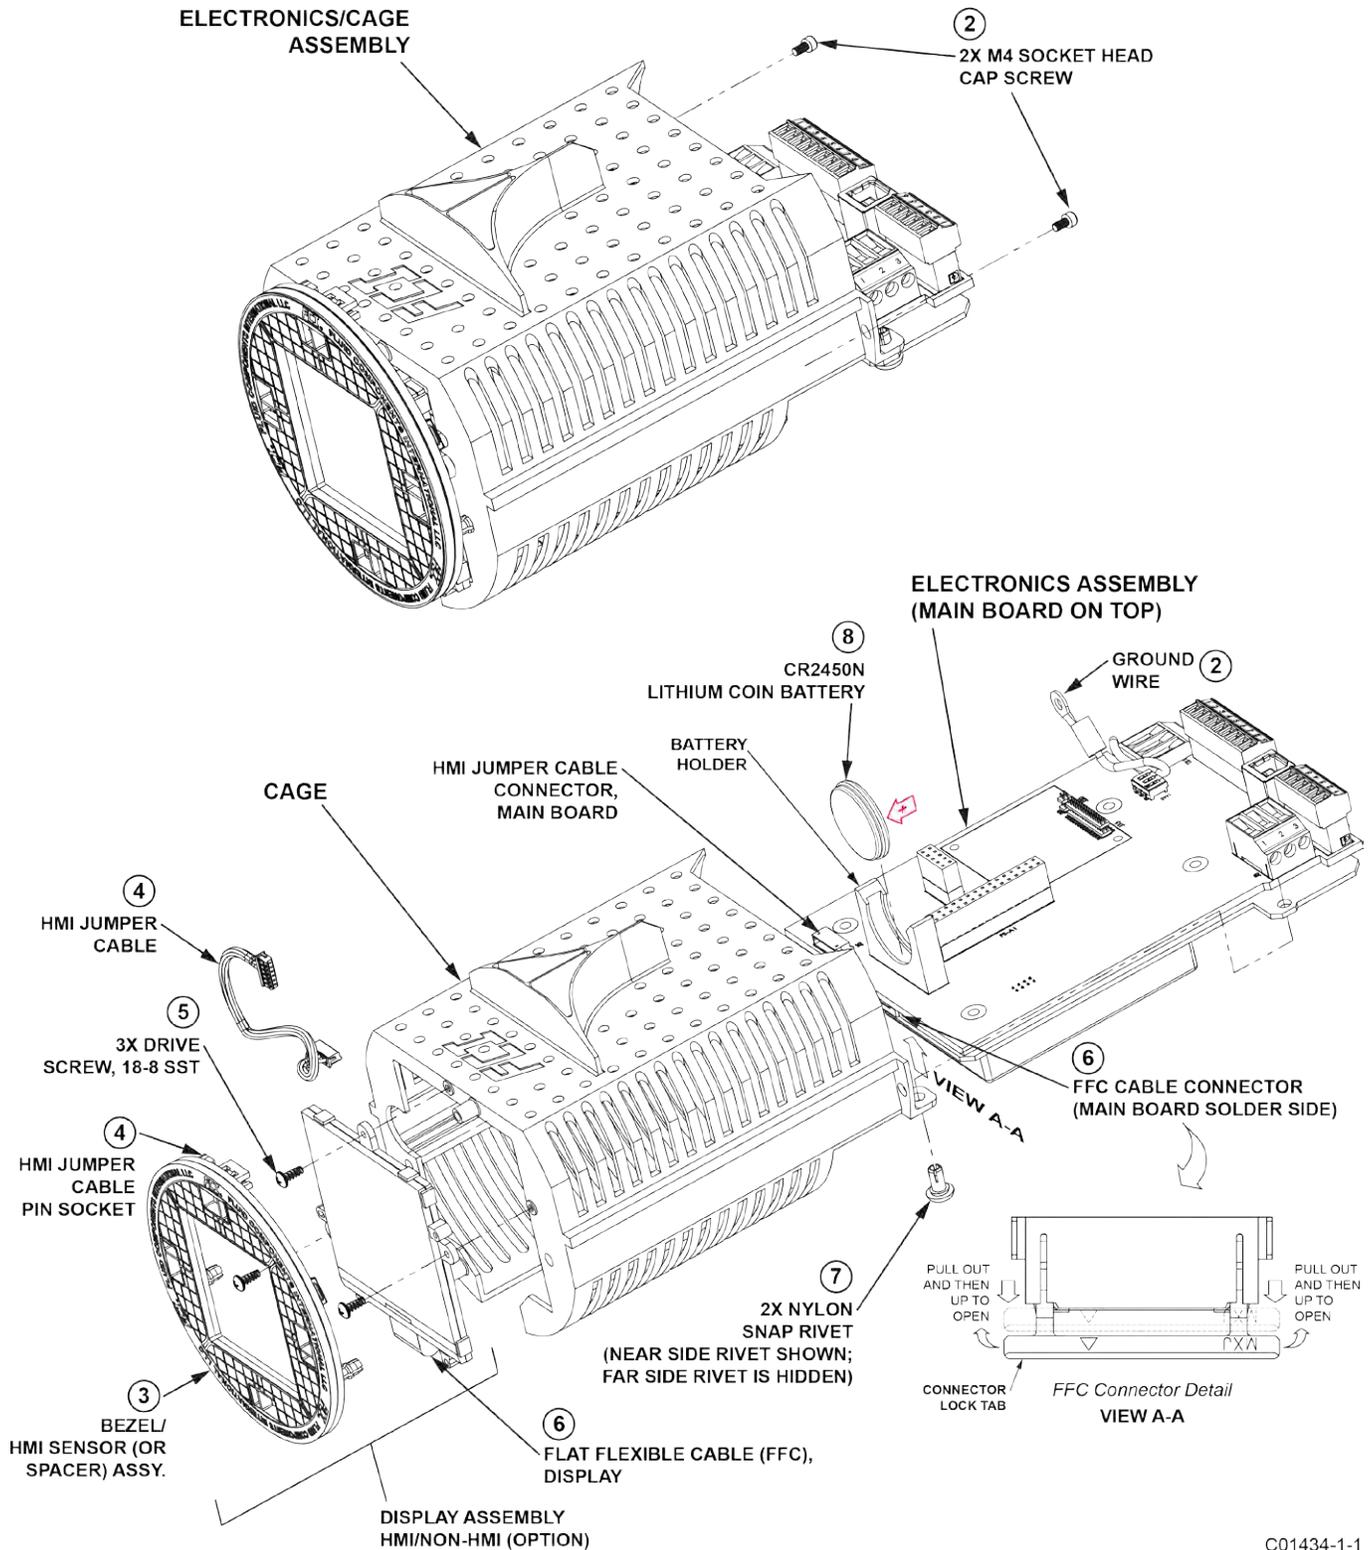

Figure 53 – Instrument Disassembly for Lithium Coin Cell Battery (CR2450N) Replacement
Disassemble the electronics to access the battery. Figure 53 below gives an exploded view of the instrument. Remove the instrument's blind lid (refer to instructions in Accessing the I/O Connectors, page 21) and follow the disassembly instructions below (skip steps 3 through 6 if unit has no display). The number callouts in the figure correspond to the numbered steps below.
4. Remove HMI jumper cable from the pin socket at the top the bezel/HMI sensor assembly (Figure 53).
6. Open the FFC cable connector on the main board: Pull the FFC connector lock tab out and then up (away from the board). Once the lock tab is opened, pull the FFC cable from the connector. Refer to the FFC connector detail in Figure 53. Carefully set aside the fully detached display assembly.